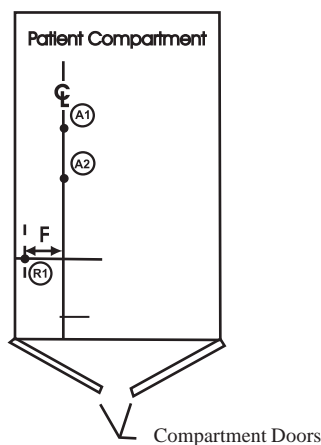

Figure 9 - Measurement F and Point 3
2. Starting from the mark made for Measurement **E**, use a framing square or carpenter's square to measure perpendicular to the Centerline toward the wall and mark a point for Measurement **F**. Label this point as Rail Point R1 (Figure 9).